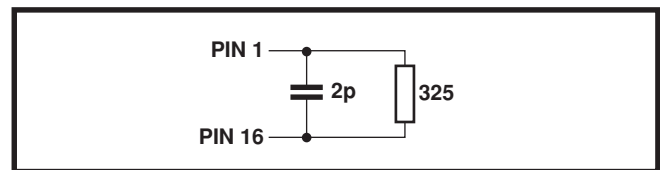
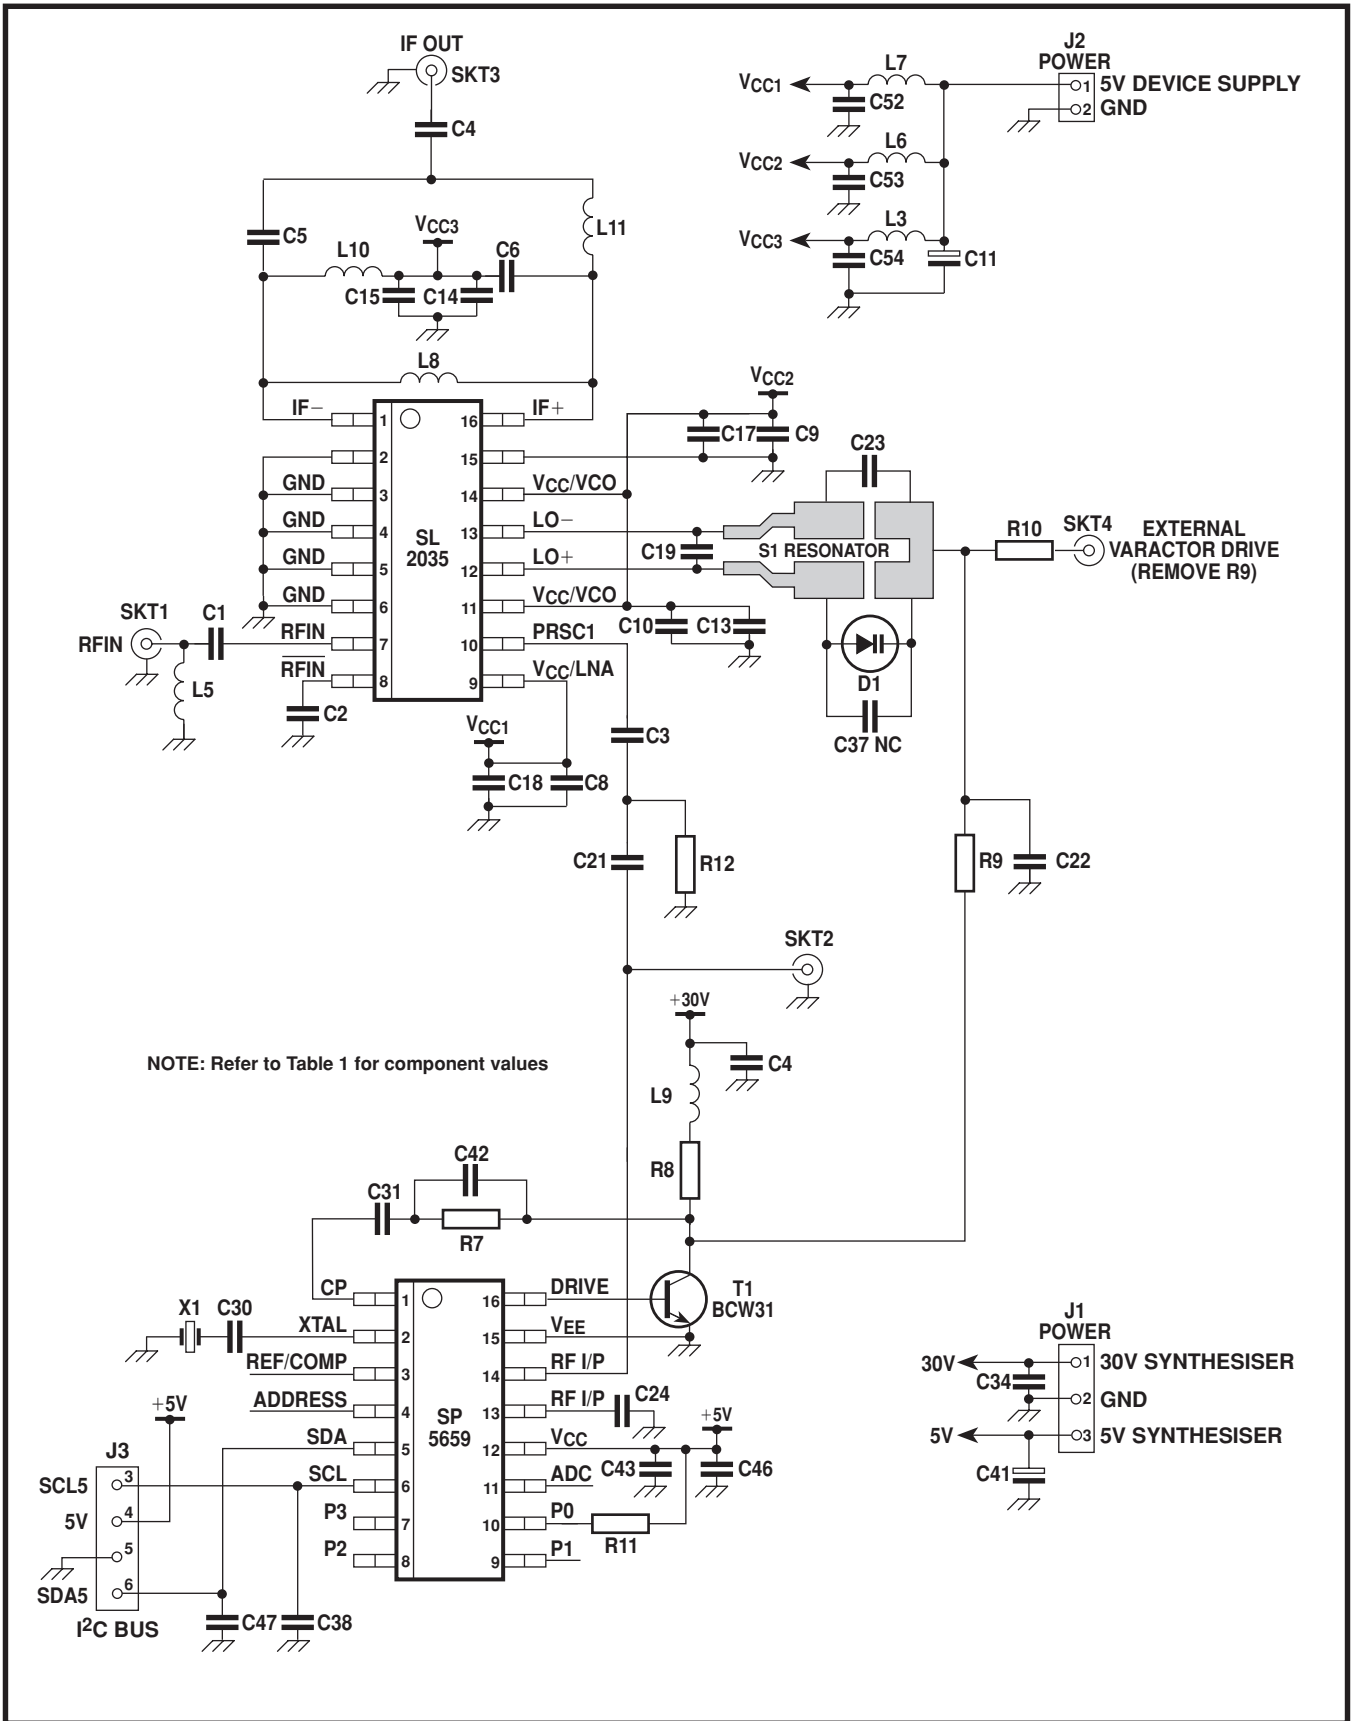

Figure 4 Approximate model of IF output
Figure 5 SL2035 upconverter application
The output of the preamplifier is fed to the mixer section which is optimised for low radiation application. In this stage the RF signal is mixed with the local oscillator frequency, which is generated by an on-chip oscillator. The oscillator block uses an external tuneable network and is optimised for low phase noise. A typical application is shown in Figure 5. This block also contains a buffer-amplifier to interface with an external PLL to allow for frequency synthesis of the local oscillator.
The IF output can be loaded either differentially or single-ended. It is recommended that the differential load as in Figure 5 is applied as this gives best noise performance. If the output is loaded single-ended the noise figure will be degraded. The approximate model of the IF output is shown in Figure 4.
- Any two tones within RF operating range at 92dB μ V with output load as in Figure 5.
Figure 5 shows the SL2035 in a typical downconverter application.
The network connected to the LO pin 12 and pin 13 is a varactor diode loaded resonant microstrip line resonator. Fine adjustment of the tuning range can be achieved by physically moving C-19 (see Figure 5) closer to the LO pins. This extends the bottom end of the tuning range.
Table 1 Component values for Figure 5